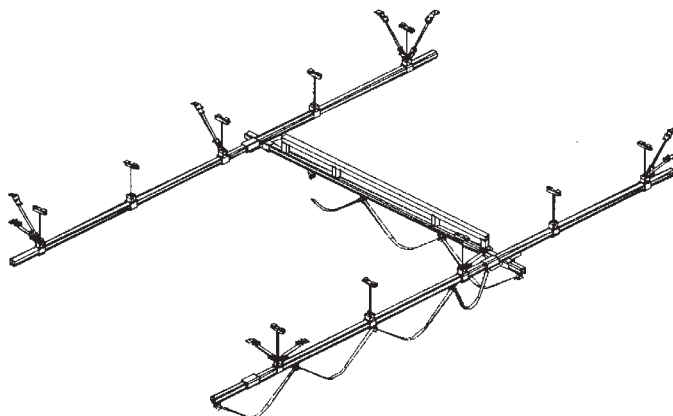

FIGURE 1
2. *Figure 1* shows a layout of a typical ceiling mounted plain track system. Preferably select one of the corner supports in a clear area as a starting point for the layout. Layout and mark all hanger points for one side. Locate all hangers of the second side at a distance equal to the crane span. Mount support beam clamps (see *Figures 20-25*) at the hanger points. On the C-480 and 20CHB beam clamps, the threaded hanger rods or bolts must be inserted first before attaching the beam clamps. Tighten bolts until snug to be sure there is no possibility of falling off. Install the threaded hanger rods. Install nuts, lock washers, sway brace end fittings depending on hanger detail being used. If practical, you may set the bottom of the hex nut approximately to the elevation of the top of the runway bracket for all hanger rods.